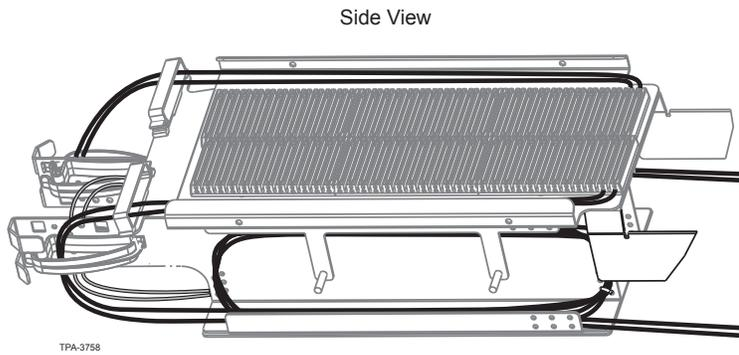

Figure 16
**Step 4:** Secure the spliced ribbons in the clips (Clip “C”) on the splicing plane. Confirm the fibres do not exceed the minimum bend radius (Figure 16).